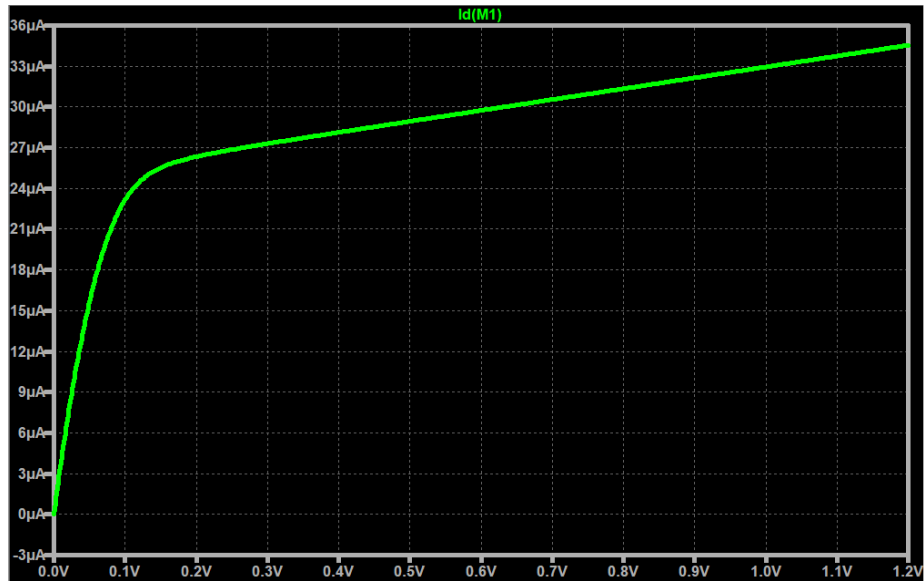

Figure 2.9  $I_{D_S}$  vs  $V_{D_S}$  curve
Extracting the output impedance uses the same characterization schematic in Figure 2.9. The only difference is that we fix  $V_{GS}$  and sweep  $V_{DS}$ . Do the following steps.
1. Using the same schematic in Figure 2.9 but this time sweep  $V_{DS}$  from 0 to 1.2 V in 1mV increments.